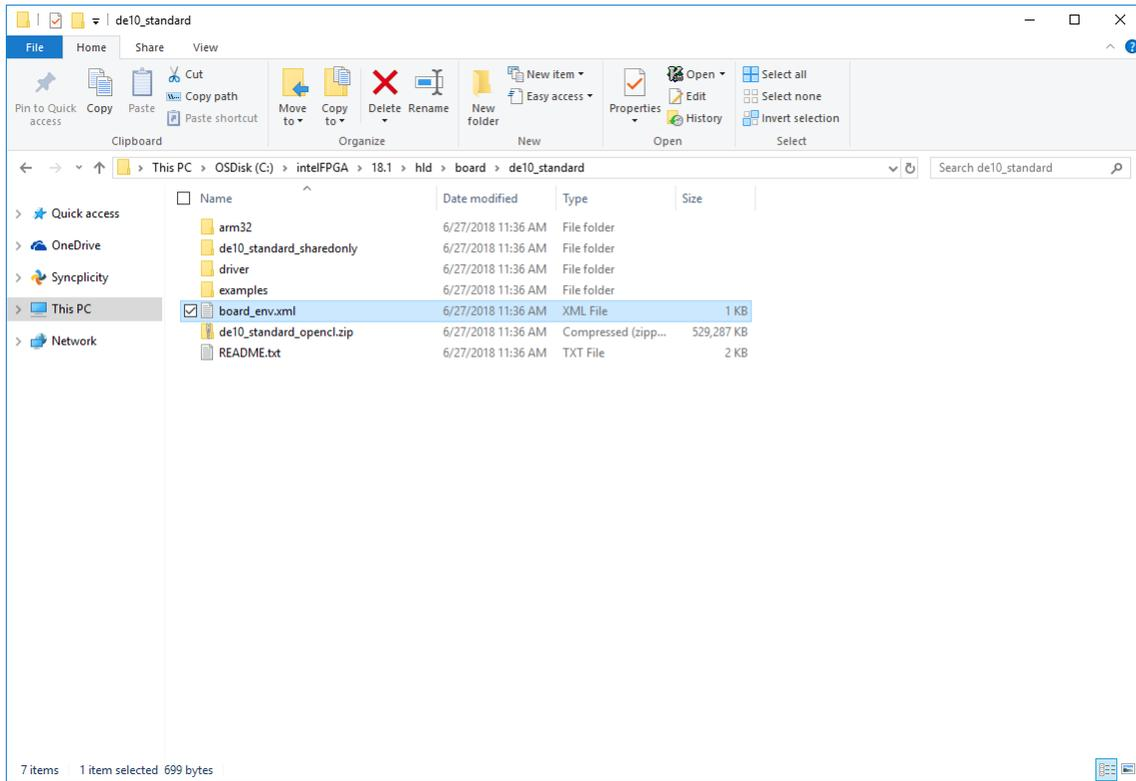

Figure 9. Downloaded Board Support Package directory
6. Ensure that the `AOCL_BOARD_PACKAGE_ROOT` points to a directory that contains a file named `board_env.xml`, as shown in Figure 9.